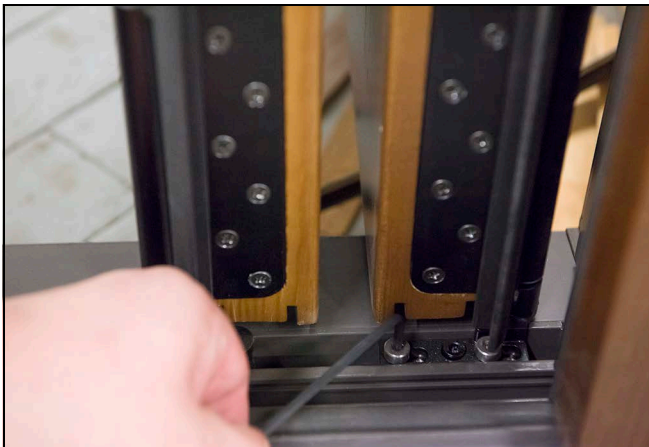

Figure 53
3. **Bottom Wall Pivot:** Loosen both 5/32" hex bolts slightly. See Figure 53.